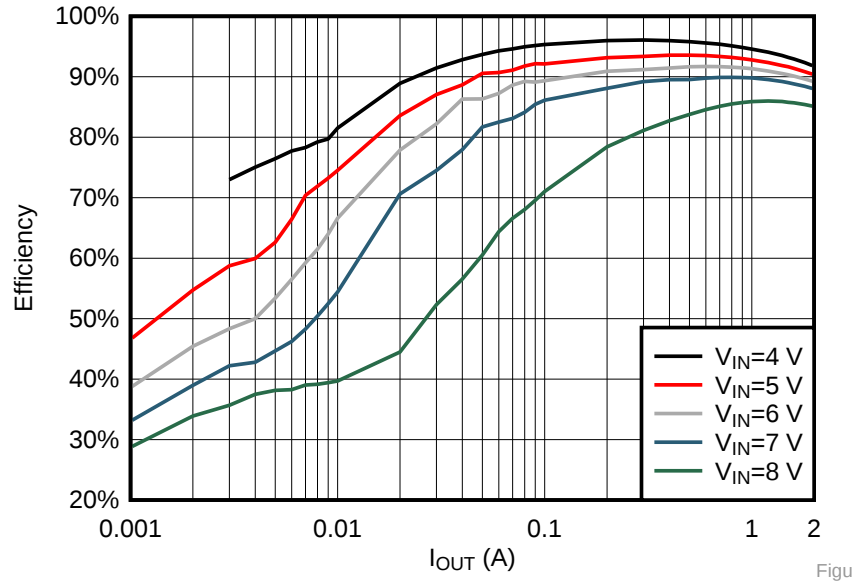
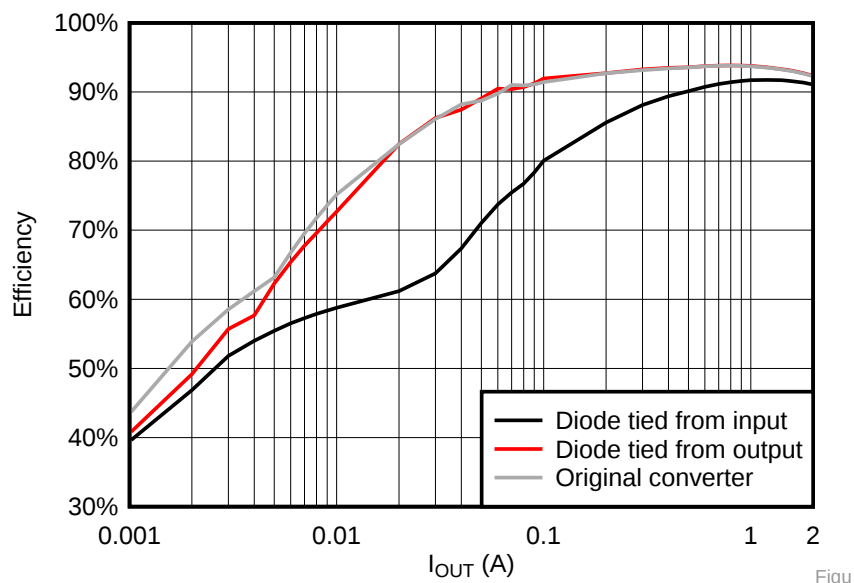

Figure 21. Efficiency of Solution (1) with 3.3 V Output under Different Input Voltage
Figure 23. Efficiency Comparison with 8 V Input and 5 V Output
Figure 21 through Figure 23 show the efficiency of solution (1) and (2) with 3.3 V / 5 V output under different V_{IN} . The efficiency of solution (1) is lower than the efficiency of solution (2) and the original input converter. Solution (2) has a closer efficiency performance to the original converter. The lower the input voltage, the higher the efficiency.